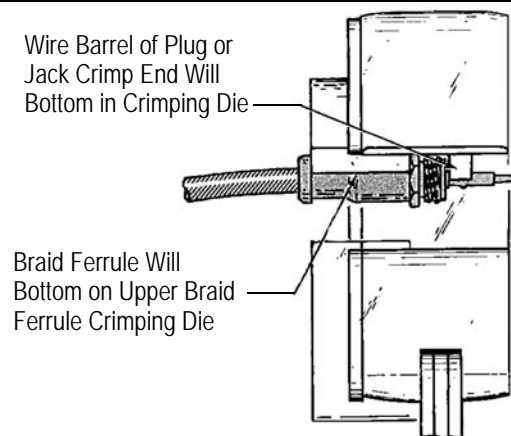

Figure 3
2. The crimping tools have double sets of dies, see Figure 3, to crimp the braid ferrule and wire barrel of the jack or plug crimp end. Ferrule and wire barrel are crimped at the same time.
3. Place the crimp end in the crimping dies as shown in Figure 3.
4. Make certain that the wire barrel and braid ferrule of the crimp end are resting firmly on the crimping dies. See Figure 3.